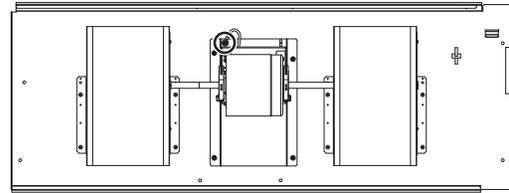

Fig.4
- (1) Remove the grounding wire of the motor wire from the motor base (Fig. 4).